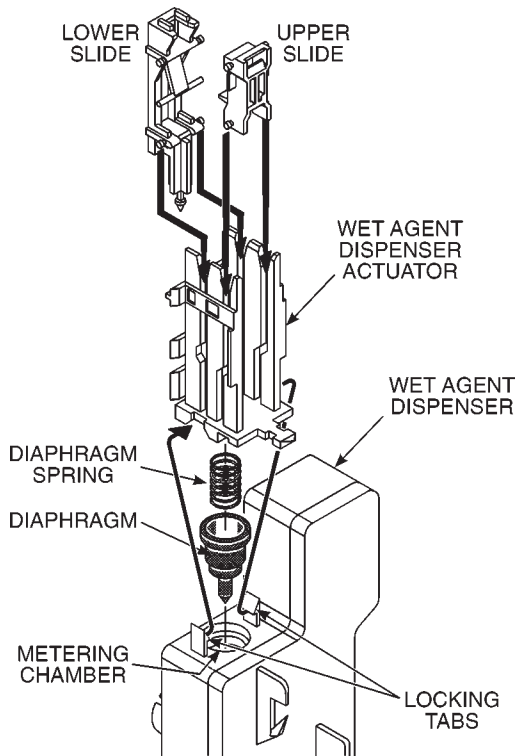

Fig. 1-30
7. Remove wet agent dispenser actuator by spreading the two (2) locking tabs. (Fig. 1-30)
4. Insert the diaphragm and diaphragm spring into the wet agent dispenser. Seat the diaphragm flush with the surface of the dispenser. (Fig. 1-30)